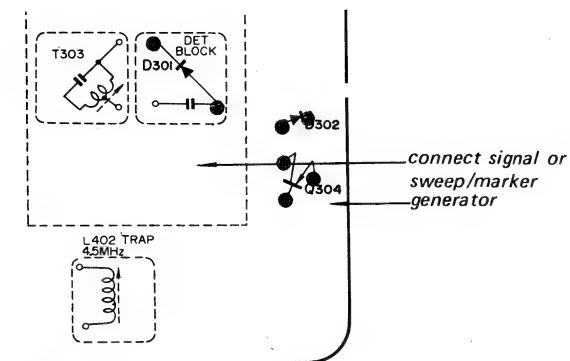

Fig. 3-6
4. Connect a signal generator to the video-detector output as shown in Fig. 3-6.
8. Connect a sweep generator to the video-detector output as shown in Fig. 3-6.